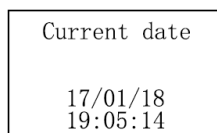

Fig. 16 Current date query interface
1) Time query: Press the Menu key, enter the main menu after entering the correct password, and select and enter "1.Information Query" by the key "▲" or "▼", and then select "5. Current Date" to see the time, as shown in Fig. 16, press the Exit key to return to the previous level screen.